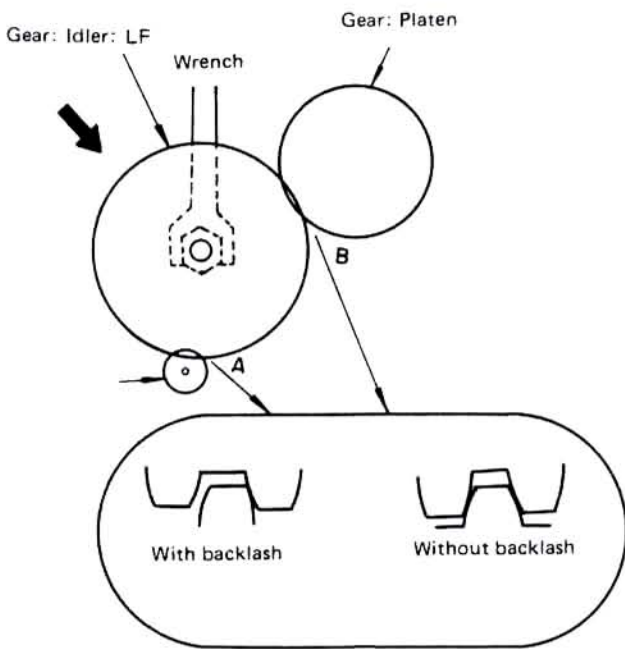

Figure 6-6.
- Fix the platen with one hand while rotating the drive gear back and forth with the other and check the backlash. See Figure 6-6. (Take the measurement at both part A and part B.)
- Loosen the line feed gear idler fixing screw, force the gear away from the direction of the arrow in Figure 6-6, and tighten the fixing screw with a spanner and a slot screwdriver.